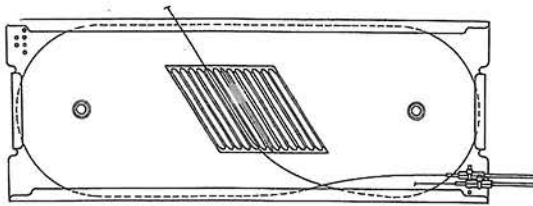

FIGURE 11
8.05 Select the fibers from the opposite direction of transmission and route them around the tray, until the fibers have made one complete loop, Figure 11.